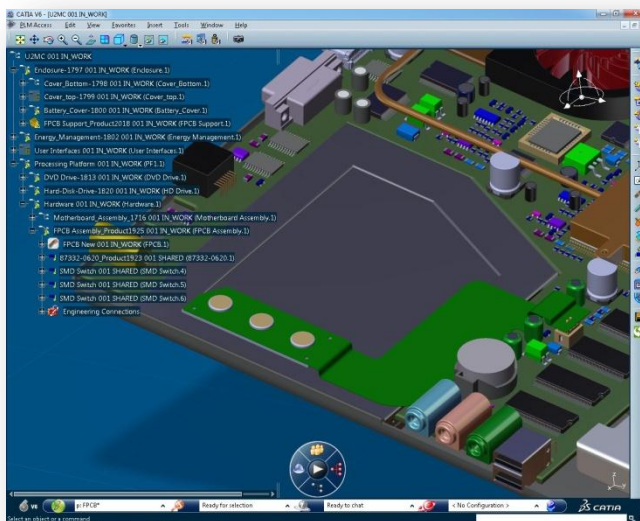

Fig 3. Positioning components
4. Critical Components are placed in 3D and thereby benefit from a 3D virtual mock-up of the product. This allows them to be located on the board in the correct location, first time. **(Fig.3).**